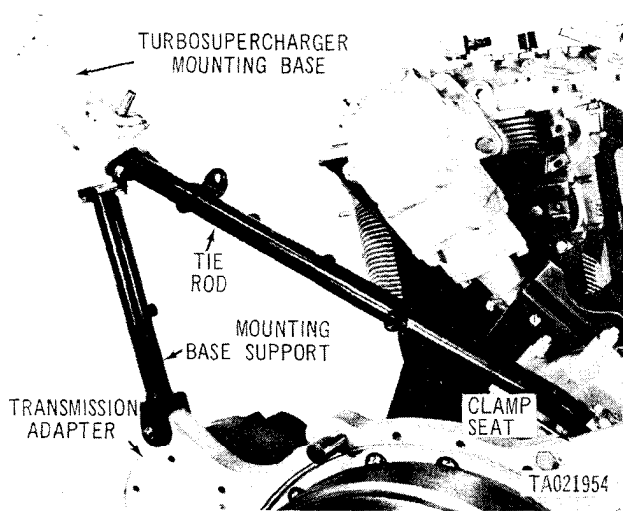

Figure 3-53. Removing or installing turbosupercharger mounting base, tie rod and base support.
a. Remove four capscrews and lockwashers and remove right turbosupercharger mounting base (fig. 3-53). Remove left turbosupercharger base in the same manner. Remove two capscrews, lockwashers and one tie rod clamp and remove tie rod.